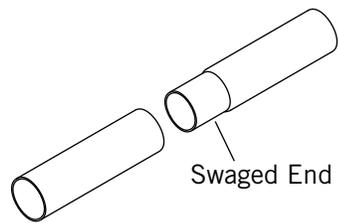

Figure 20-1
- 1) **Figures 20-1 & 20-2.** Assemble swaged ends of anchor pipe and weld sections together.